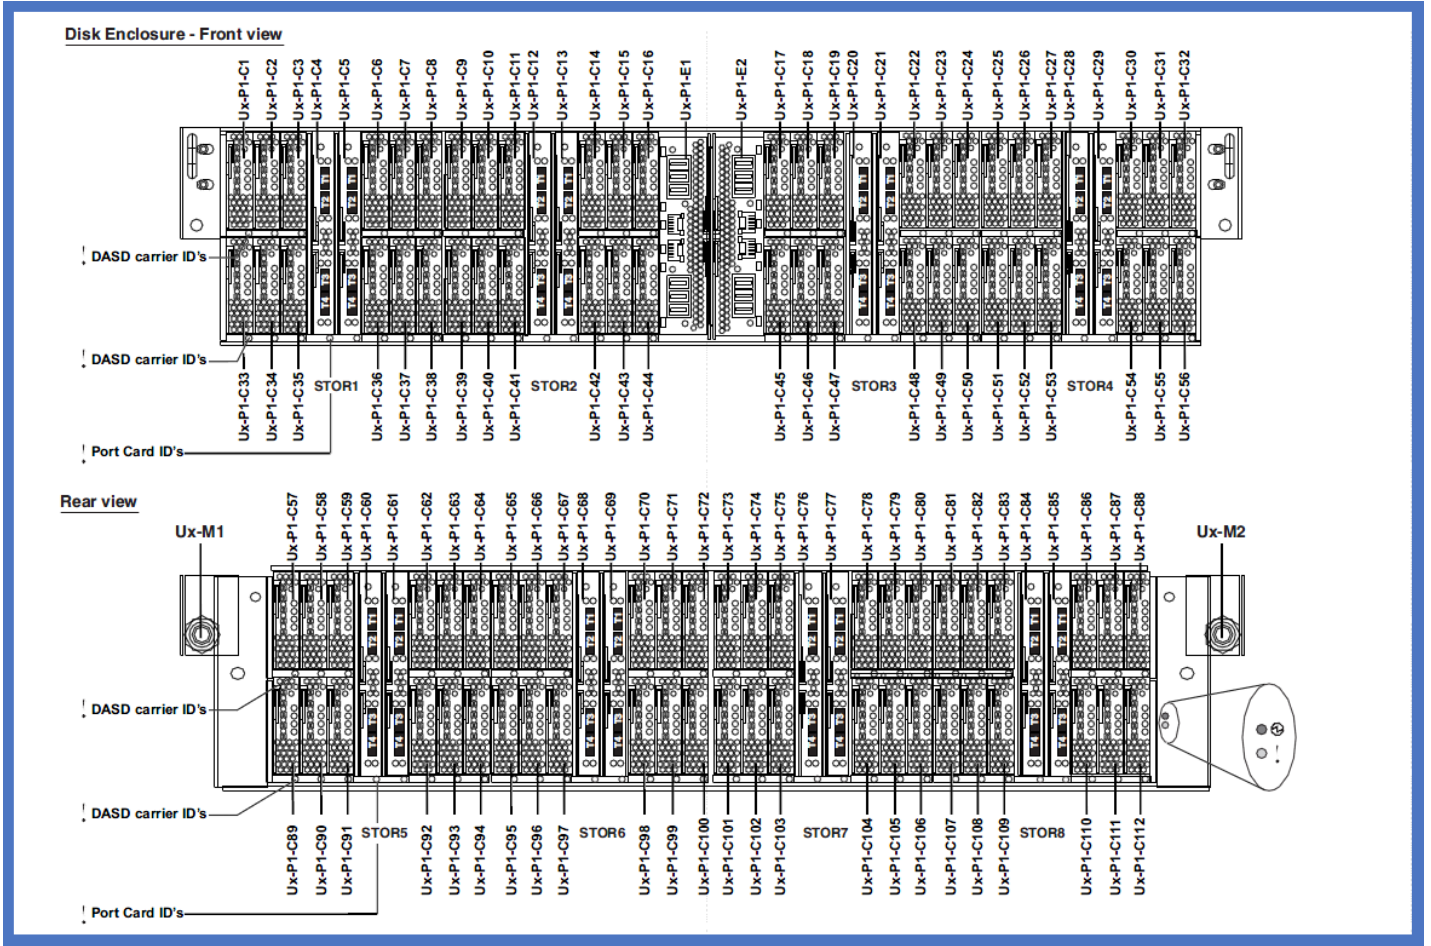
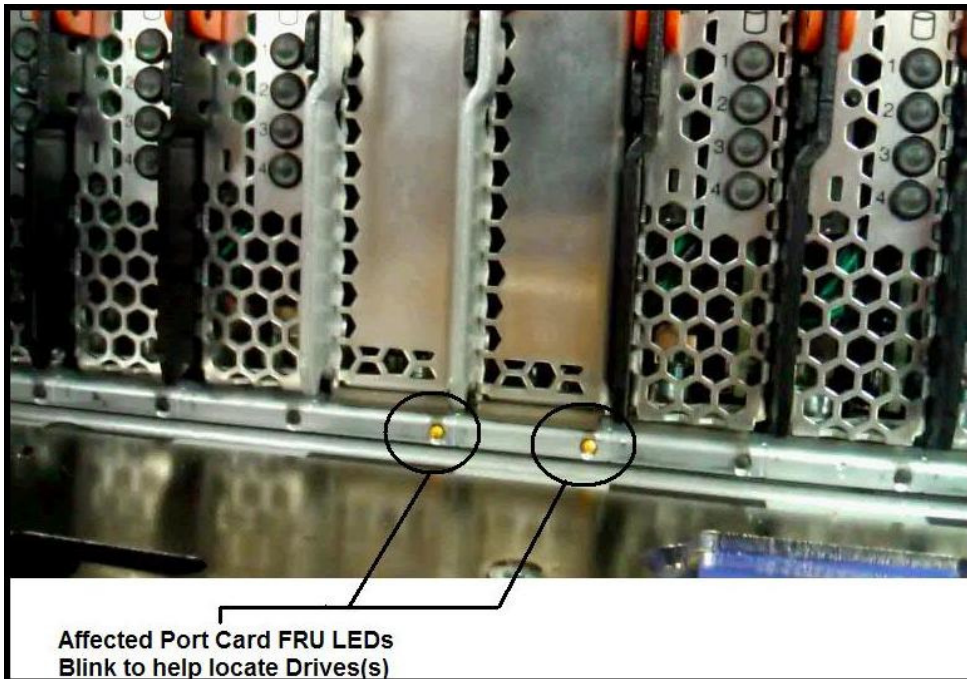
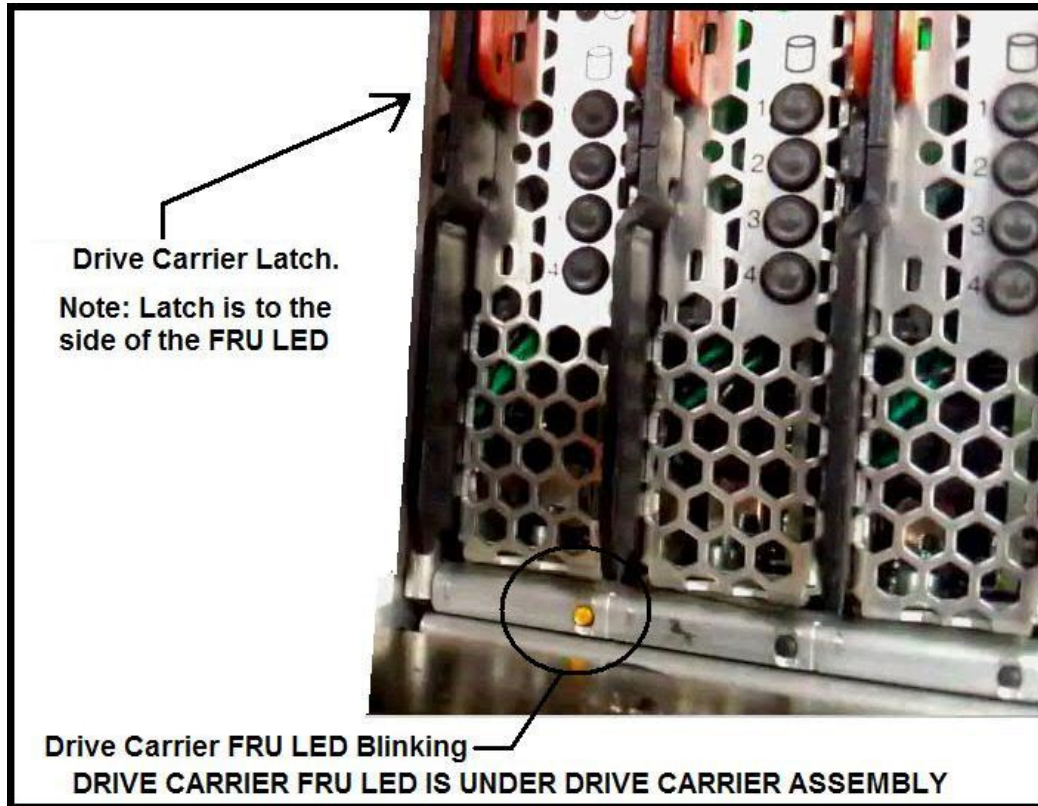

Figure 20 Disk Enclosure LEDs
Figure 21 Port Card FRU / ID LEDs
Figure 22 Drive Carrier FRU / ID LED
- b. Check that the Frame (UEPO) , Enclosure ID, Port Card Slot ID, and amber Drive Carrier Slot ID LEDs are blinking (see Figure 20, Figure 21, Figure 22).
NOTE: The Drive Carrier Slot ID and the Port Card Slot ID functions have 2 LEDs on the backplane going into a single light pipe. If the LED is not blinking, do not assume that the LED is broken as it is very unlikely that both are broken (see Figure 21) If this LED is not blinking, it is recommended to stop and contact next level of support.